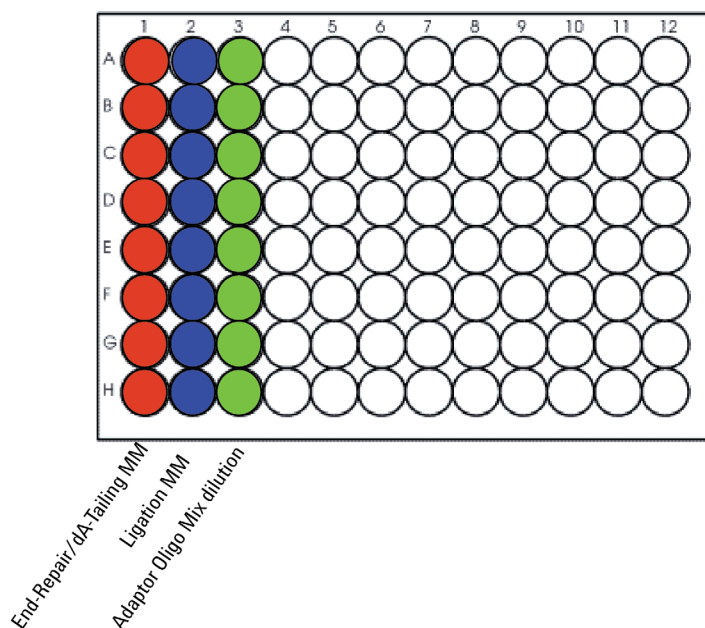

Figure 5 Configuration of the **Agilent Deep Well** master mix source plate for runset LibraryPrep_XT_HS2_ILM
- 1 Prepare the **Agilent Deep Well** master mix source plate containing the mixtures prepared in step 1 through step 1. Add the volumes indicated in Table 35 of each mixture to all wells of the indicated column of the Agilent Deep Well plate. Keep the master mixes on ice during the aliquoting steps. The final configuration of the master mix source plate is shown in Figure 5.